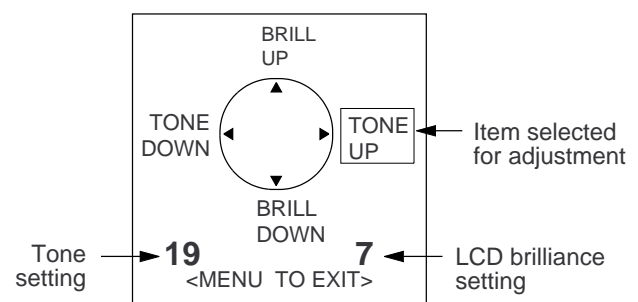

Figure 2-3 Display for adjustment of brilliance and tone
- 1) Press the [BRILL] key (or [TONE] key). The display shown in Figure 2-3 appears.